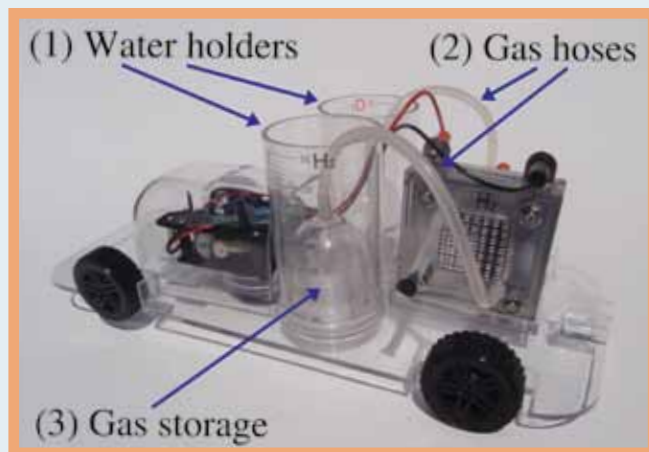
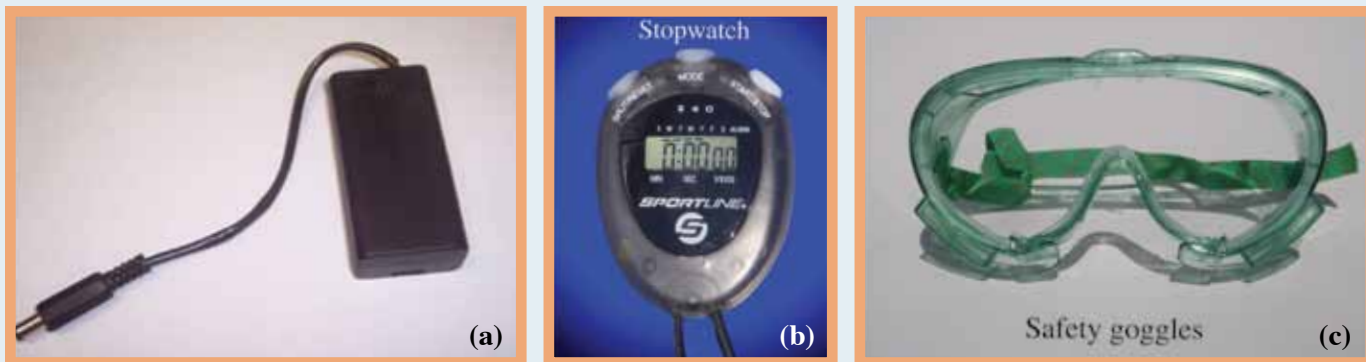

FIG. 2. Reverse electrolyzer/fuel cell.
FIG. 3. (a) Battery pack, (b) stopwatch, and (c) safety goggles.
- Electrolyzer/fuel cell (Fig. 2)
- Battery pack (Fig. 3)
- Stop watch (Fig. 3)
- Goggles for eye protection (Fig. 3)
The electrolyzer or fuel cell (also known as the reversible fuel cell because it can work as an electrolyzer or as a fuel cell) is the central device of the car (see Fig. 2 for the parts of the cell, and Fig. 3 for the car with the fuel cell connected). As an electrolyzer electric power is used to break the molecule of water into  $\text{H}_2$  and  $\text{O}_2$ . As a fuel cell,  $\text{H}_2$  and  $\text{O}_2$  react to produce electricity and water as by-product.
2. Fill the electrolyzer/fuel cell storage cylinders with distilled water (only). There should not be air space or other gas in the cylinders. To do this follow the procedure described below. (See part numbers labeled as in Fig. 2.)
- a. Place the cell (electrolyzer/fuel cell) on a flat surface. Unplug the gas collectors (3) and gas hoses (2) from the water containers (1).
- c. Plug the gas collectors (3) into the water containers (1). Make sure that the bottom is sealed so that gases will not escape.
- d. Connect the gas hoses (2) into the gas collectors (3).